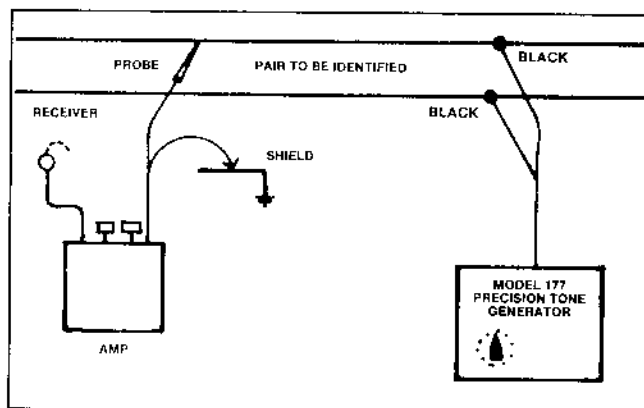

Figure 2 Connecting the Model 177 across the pair for pair identification
3.02 Connect the Model 177 (black leads only) to the pair to be tested as illustrated by Figures 2 through 5. The output of the Model 177 and the gain of the amplifier to be used should be adjusted to a low but usable tone level at the amplifier's speaker or headset. Setting the tone output level or the amplifier gain to a too high level can produce tone saturation which can cause the tone to appear to spread to other pairs or to run past the fault. Tone saturation is present when increasing the amplifier gain produces little or no increase and sometimes a decrease in tone level at the amplifier speaker or headset. Tone saturation can make it impossible to detect level changes in the tone which are vital to successful pair identification or fault location.